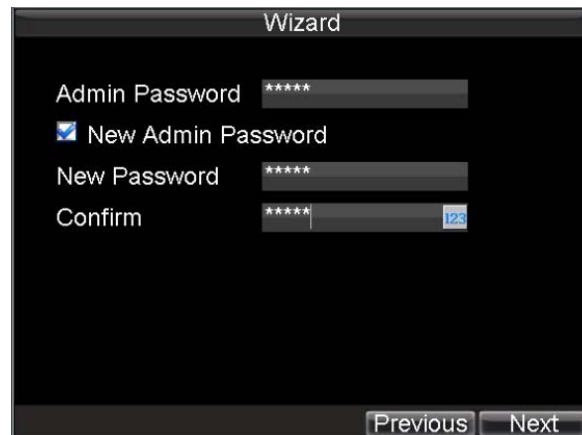

Figure 3. User Permission
1. Click the *Next* button on the Wizard window. This will take you to the **User Permission** window, shown in Figure 3.